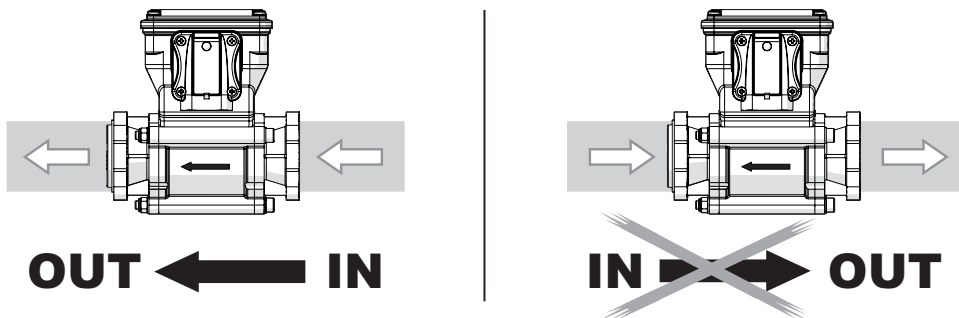

Fig. 6
- Comply with the correct fluid inlet-outlet direction, as indicated by the arrow printed on the flowmeter body (Fig. 6).